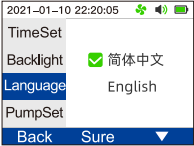

Figure 21
**Language setting:** Set the system display language (Figure 21).